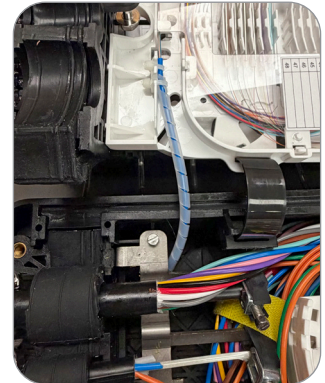

Figure 27
6. Wrap the supplied soft spiral tube around the tube being used. (Figure 27)